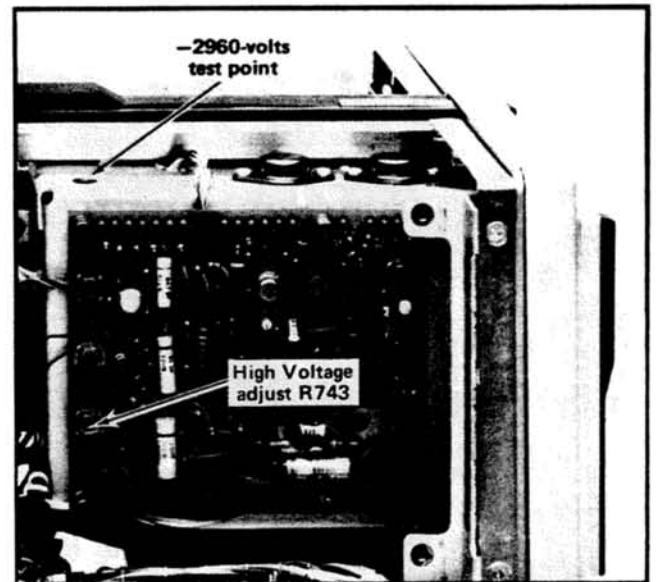

Fig. 5-6. Location of -2960 Volts test point and High Voltage adjustment R743.
b. Connect the DC voltmeter (VOM) between the high voltage test point (see Fig. 5-6) and ground.3
e. ADJUST—High Voltage. R743 (see Fig. 5-6) for a meter reading of -2960 volts.